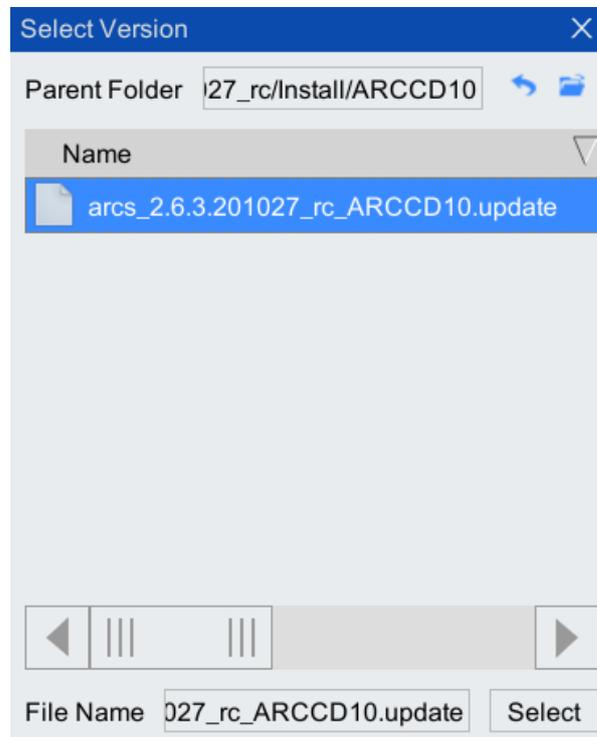
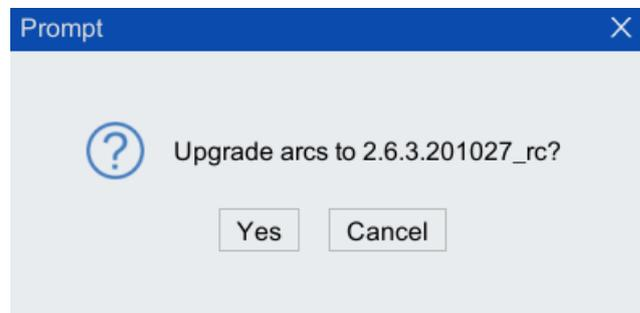

Figure 8-41 Path where ARCS upgrade file is located
Figure 8-42 "Are you sure to upgrade ARCS to the corresponding version" dialog box
Step2. As shown in Figure 8-41, switch the path to the path where the ARCS upgrade file is located, select the ARCS upgrade file, click <Select> button to pop up "Are you sure to upgrade ARCS to the corresponding version" dialog box in Figure 8-42, and click <Yes> button.